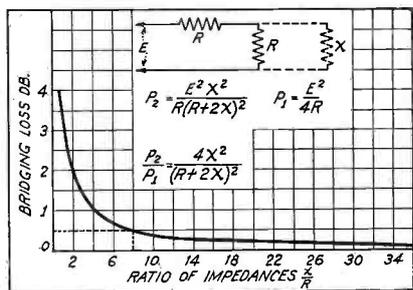
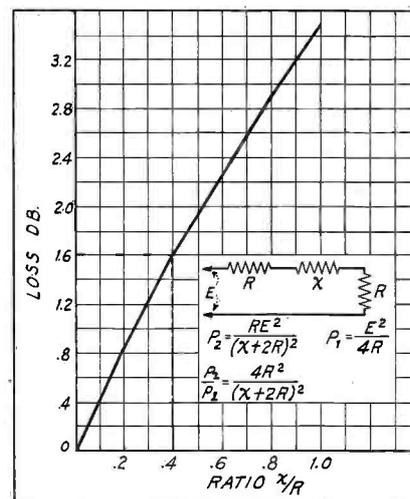
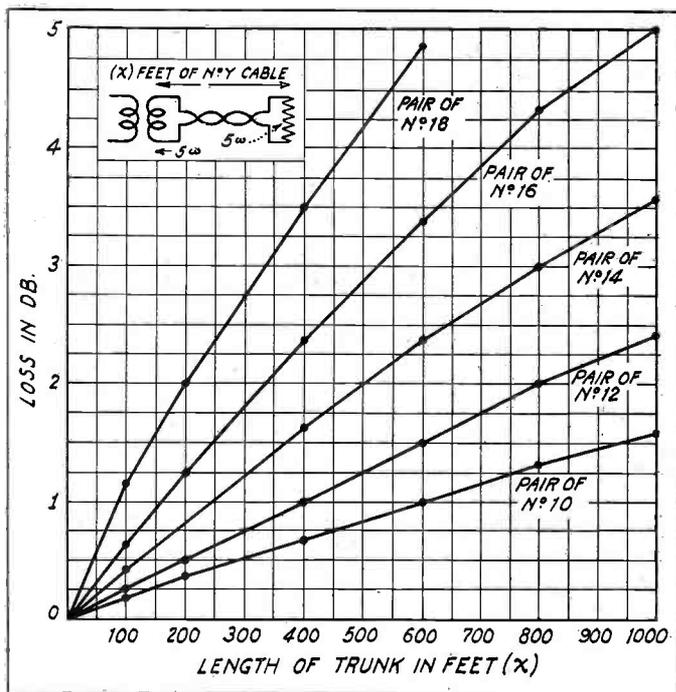

Fig. 1. Bridging loss vs. ratio of bridging impedance to termination resistance
Fig. 3. Loss due to series resistance vs. ratio of series resistance to termination resistance
Fig. 6. This graph gives the loss due to cable pair working between impedances of 5 ohms, the values being given for five sizes of wire
While these losses can be readily calculated, a few charts will save considerable time. For example, Fig. 1 may be used to compute bridging losses. If a piece of apparatus of resistance X is to be bridged across a line of impedance R, the loss may be had by computing the ratio $\frac{X}{R}$ and picking the loss off the curve. Suppose we let the resistance of the apparatus (X) be 4,000
Now, returning to the curve of Fig. 1, we find that 8 corresponds to a loss of 0.5 db., as indicated by the dotted lines. Had X been 500 ohms instead of 4,000 ohms the loss would have been 3.5 db.
The curve of Fig. 2 has been derived directly from Fig. 1 and represents the loss due to bridging any impedance from 500 ohms to 16,000 ohms across a 500-ohm line. Similarly, the loss due to series resistance may be determined from Figs. 3 and 4. Thus, if the ratio of series resistance to line resistance is 0.4, the loss is 1.6 db. (Fig. 3).
and the loss from Fig. 3 is seen to be 1.3 db.
The charts of Figs. 6 and 7 may be derived from the table of Fig. 5 and the curve of Fig. 3. The charts of Figs. 1, 3 and 4 may of course be extended, although the values given by these figures cover the ground sufficiently for most public-address work.